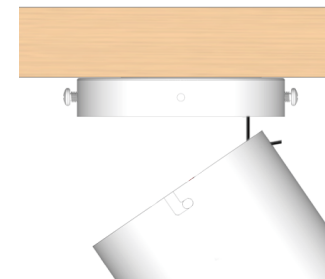

Fig. 7.1
7.1 Carefully lift the fan-motor assembly and hang it using the hook of the mounting plate. Securely suspend the motor assembly by using one of the round holes at the outer rim of the motor housing as shown in Fig. 7.1.